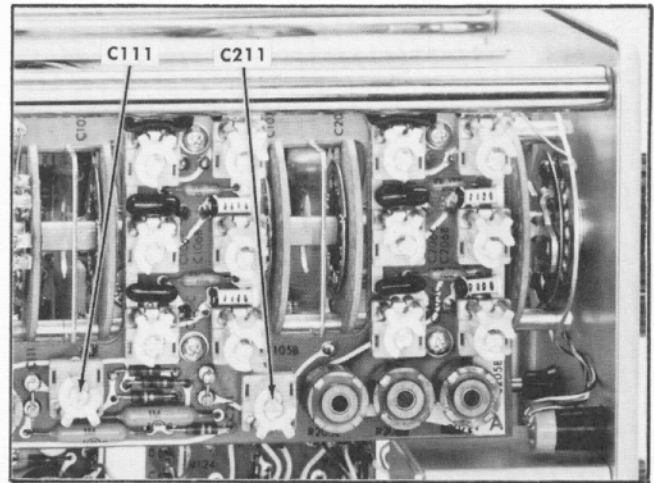

Fig. 6-21. Location of adjustments for steps 13 and 14.
e. Check the square-wave display for flat tops (see Fig. 6-20a). If the tops are not flat (for example, see Fig. 6-20b or c), then adjust C111 (see Fig. 6-21) to obtain best square-wave response.
c. The bottom of each square-wave cycle should be flat. If it is not, adjust C211 (see Fig. 6-21) for best flat-bottom square-wave display. Use Fig. 6-20a as a guide.